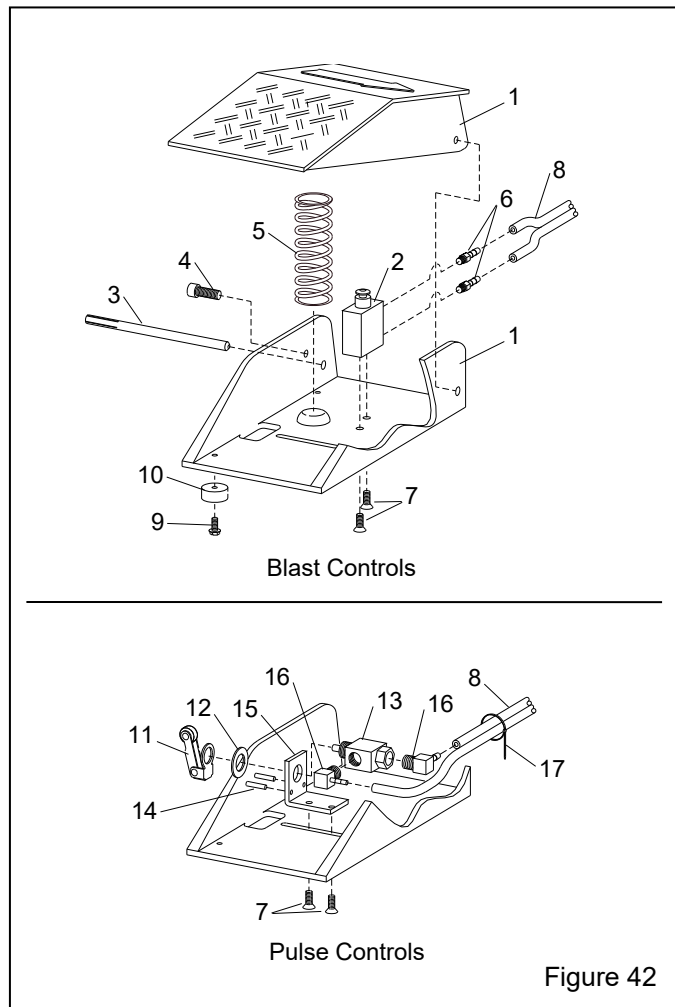

Figure 42
1.	Metering stem assembly (items 2, 3, & 4) ...	23889
9.7 Foot Pedal – Figure 42